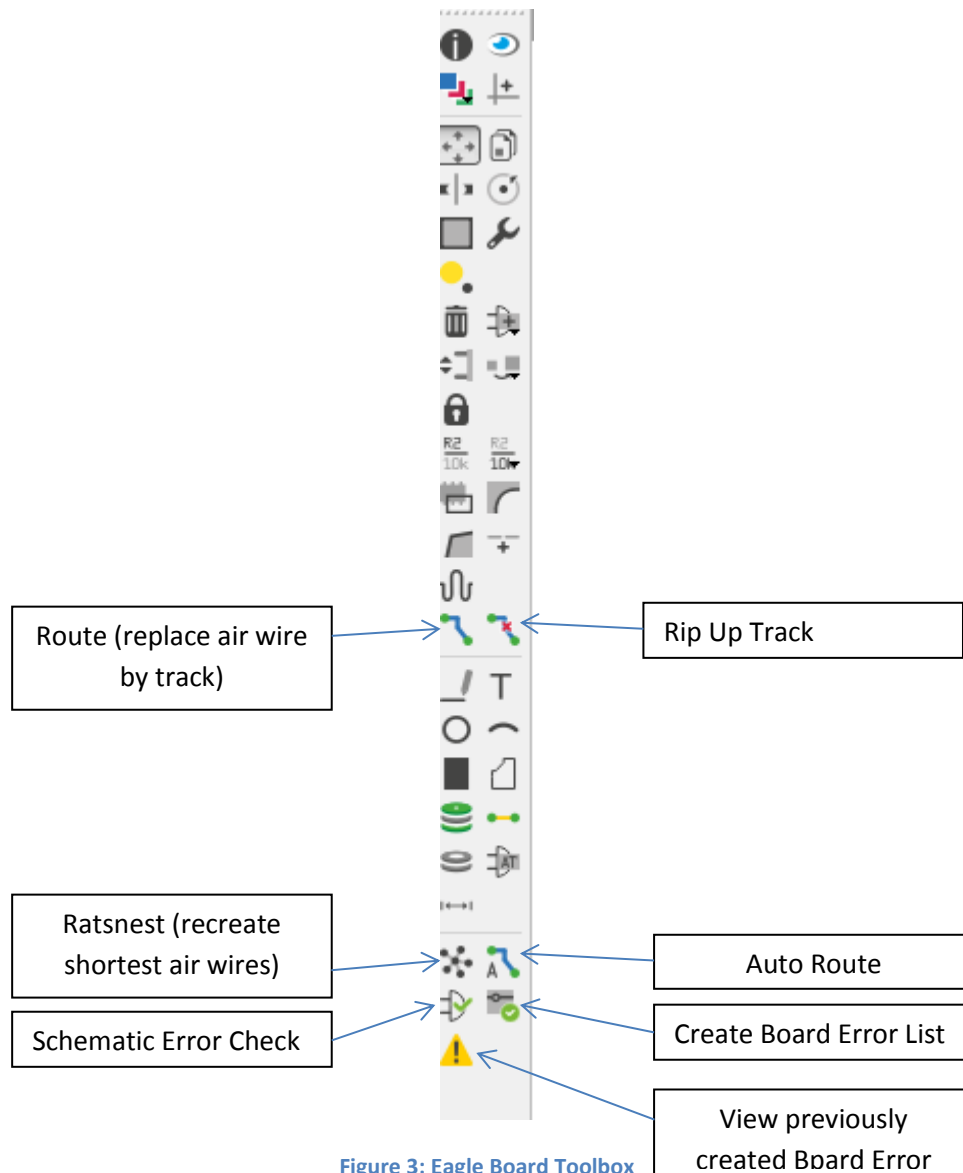

Figure 3: Eagle Board Toolbox
- f. Eagle will not layout the components for you, you need to drag the components from outside to inside the active box (effectively the board you are laying out). The components will be linked by “air wires”, the nets you created in the schematic, between the connected points; you must replace the air wires with tracks. This can be done (lazily and possibly not most effectively) using the Auto Route button from the board toolbox as shown in Figure 3
- h. Use the Create Board Error List button (Figure 3) to check the layout of your components and tracks. Any air wires left unconverted to tracks should be intentional, i.e. you are going to replace them with physical wires when you populate your board.